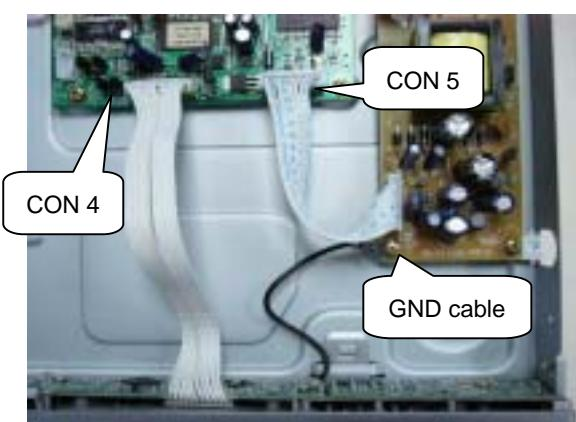

Figure 5
Step4: Dismantling Front Panel: disconnect the 2 connectors aiming in the figure then Release the snaps on the both sides of Front Panel and gently pull the Panel out from the set. (Figure5& 6)